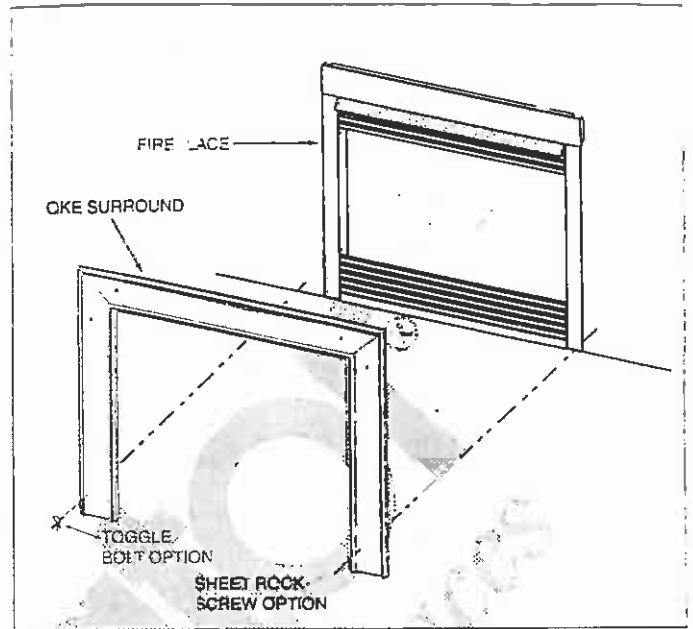

Figure 2
- Place the assembled Surround against the fireplace Face and mark the Wall through the pre-drilled Mounting Holes in the Surround pieces. There are [2] Holes in each Side piece and also in the Top piece. See Figure 2.
- Attach the Surround to the Wall with the appropriate Fasteners: Use the Sheet Rock screws provided (only if the Mounting Holes line up with Framing Studs) or use the Toggle Bolts provided (if the Sheet Rock screws cannot be run into Framing Studs). See Figure 2.